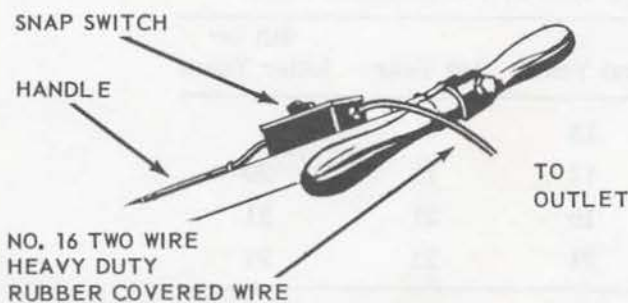

Figure 9
1. Put the snap switch on the handle (Figure 9) near the top so it can be reached in a hurry. If small stones or heavy twigs are caught in the blades, you'll be able to stop the mower fast and avoid damage.